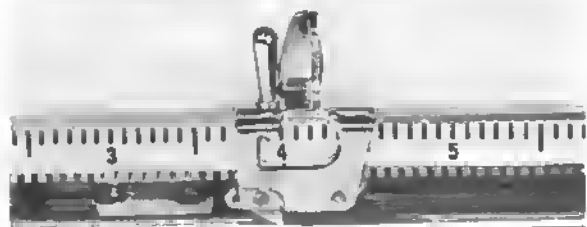
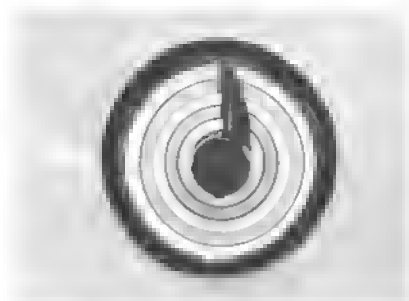

Figure 23
Figure 23a
1. Position the **left margin stop** on the margin scale as shown in Figure 23 (it will not necessarily be at the same position as shown in the picture).
2. Press **automatic carriage return and paper feed key (41)**. Carriage will automatically return to left margin position.
3. Set margin dial (20).
- a. Turn **pointer (20c)** clockwise until it aligns with **vertical line (20a)** of the dial (Figure 23a). The **pointer (20c)** magnifies even the most minute movement of the carriage. It moves with the carriage *clockwise* when keys and space bar are pressed, *counterclockwise* when the carriage is hanked or back space keys are pressed.